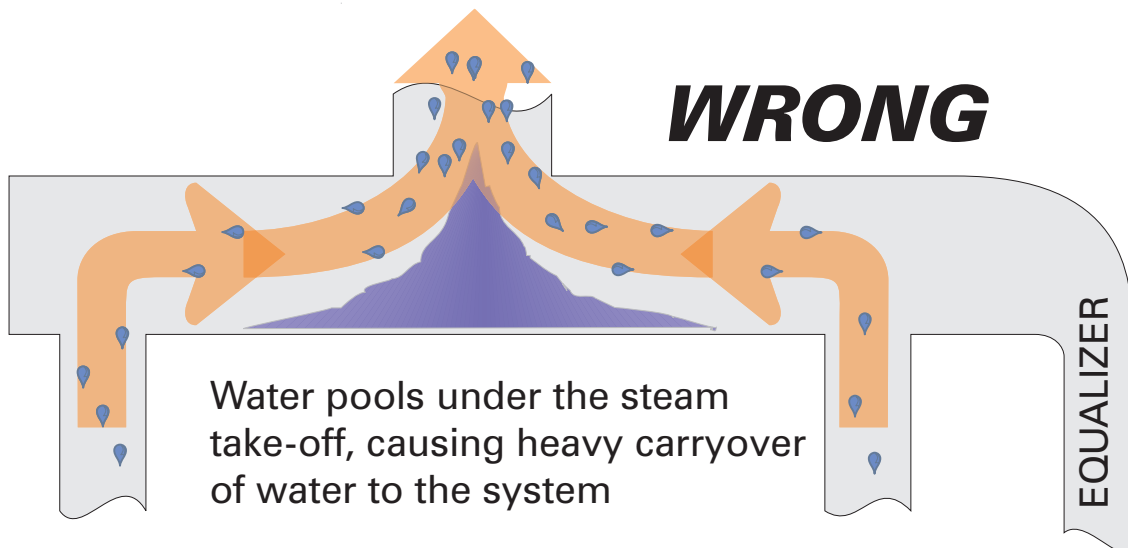

Figure 14: Location of Steam Take-Off on Multiple Riser Boiler
- On boilers with multiple risers, **the system steam take-off(s) should be between the last boiler riser and the equalizer line**. When the piping is installed correctly, as shown in Figure 14, water is separated from the steam as the steam turns up into the take-offs. The figure also shows how water pools under the take-off if it is between the boiler risers, causing water carryover to the system.
- **The near-boiler piping must be done as shown in these instructions.** This piping is designed to assure dry steam is provided to the system. Undersized pipes and steam take-offs in the wrong locations can cause large amounts of water to be carried into the system (Figure 14). The result would be water hammer and damage to system traps and vents. It will also cause make-up water to be added to the system due to frequent low water conditions in the boiler.